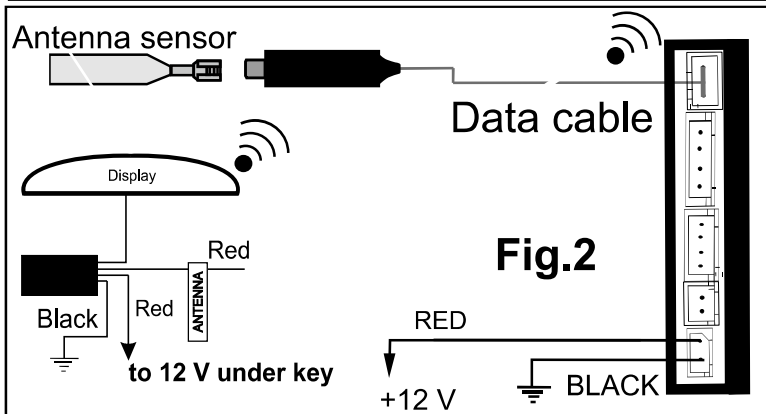

Fig.2
c) Connect the red wire of the 12 Volt power cable under key so that the Display is activated when the instrument panel is turned on. **Fig.2**